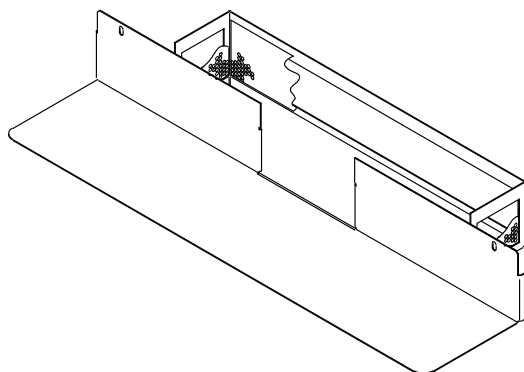

Figure 3-14. Rear Ground Plate Assembly (PN 03F4815). (Used if the floor is not raised.)
- 2) **If the floor is not raised**, install the rear ground plate assembly P/N 03F4815 (see Figure 3-14). Turn the rear casters appropriately to give clearance, and slide the assembly from the rear of the machine. Secure with two screws P/N 1621210. Before securing the screws, push down on the plate to give it maximum contact with the floor.